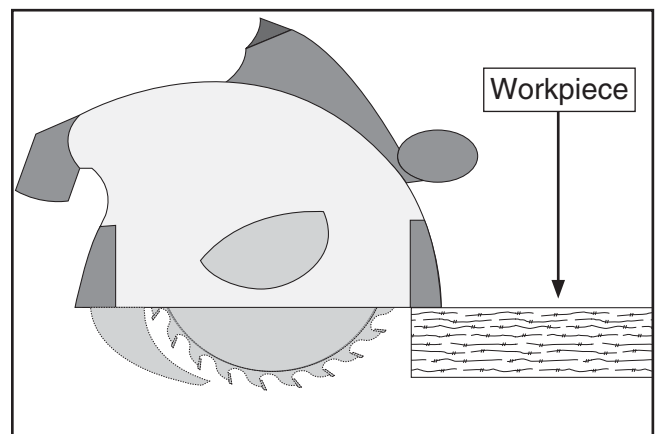

Figure 17. Positioning the saw onto the workpiece for a straight cut.
2. Position the front of the saw onto the workpiece, leaving enough room for the blade to fully extend from the bottom without coming into contact with the workpiece, as shown in **Figure 17**.